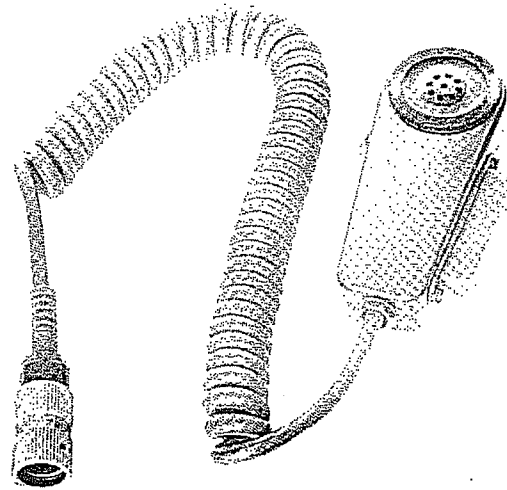

Figure 1-8. Microphone M-80/GR
c. Microphone M-80/GR (fig. 1-8)